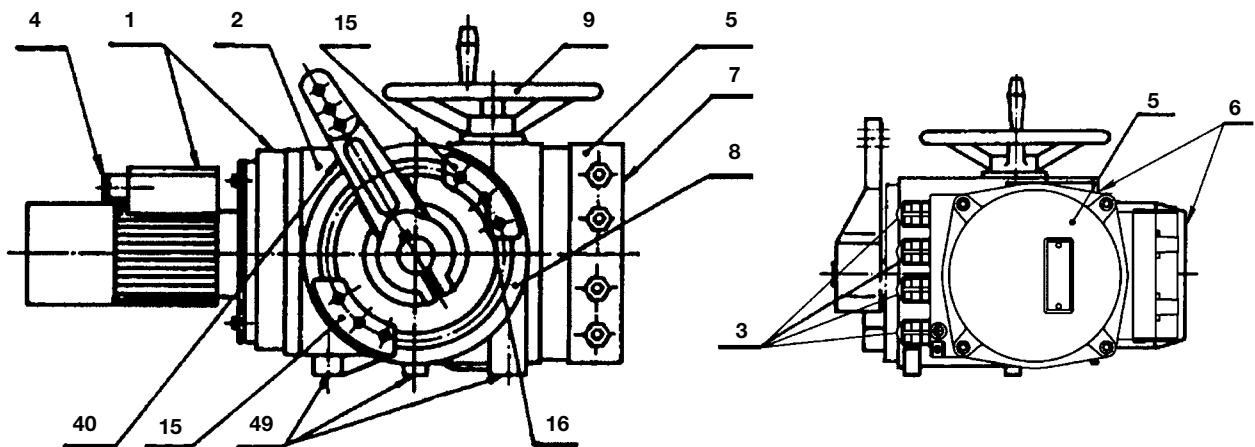

Fig. 1 - Actuator assembly
The actuators consist of the following modules (see Fig 1):
a) Electrical motor with gearbox (Fig. 1)
b) Power gear unit with manual control (Fig. 1)
c) Control box (Fig. 1)
The control box is covered with the lid 6 (Fig. 1).
d) Lever assembly (Fig. 1)
e) Terminal board box 5 (Fig. 1)
Bushings or the connector are screwed in the terminal board box 5 (Fig. 1).